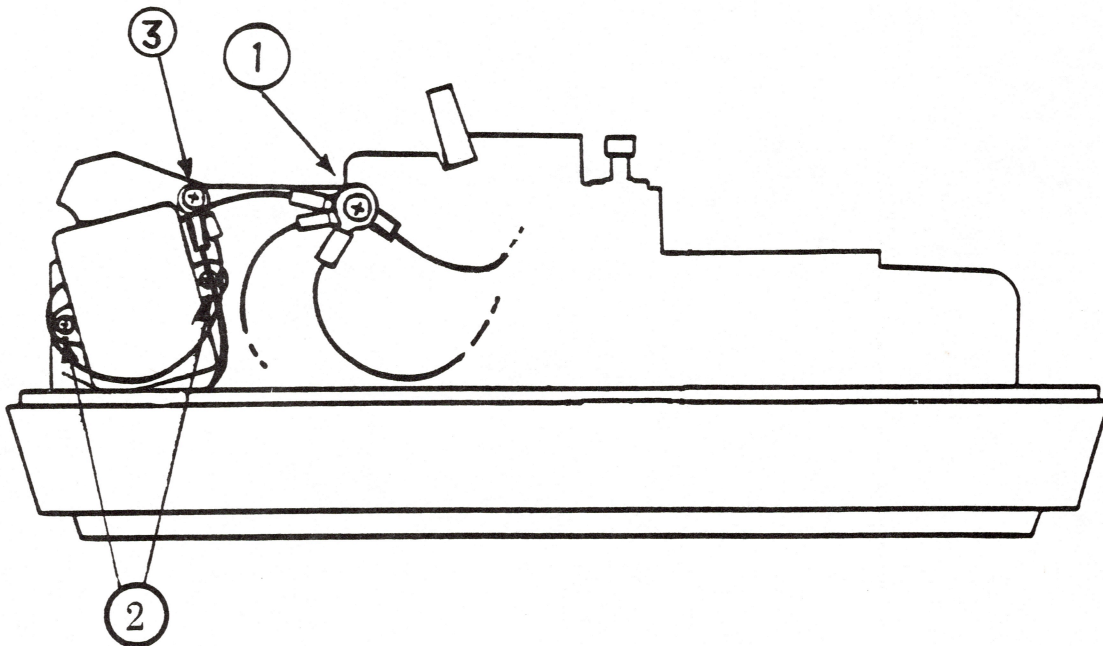

FIGURE 4
3. Position the noise filter on the frame. It goes at an angle (see Figure 4, #2).
5. Put together the screw, washer, four ground cables, and star washer (see Figure 4, #1). Screw them into the side frame. Do the same with the other two ground cable (see Figure 4, #3).